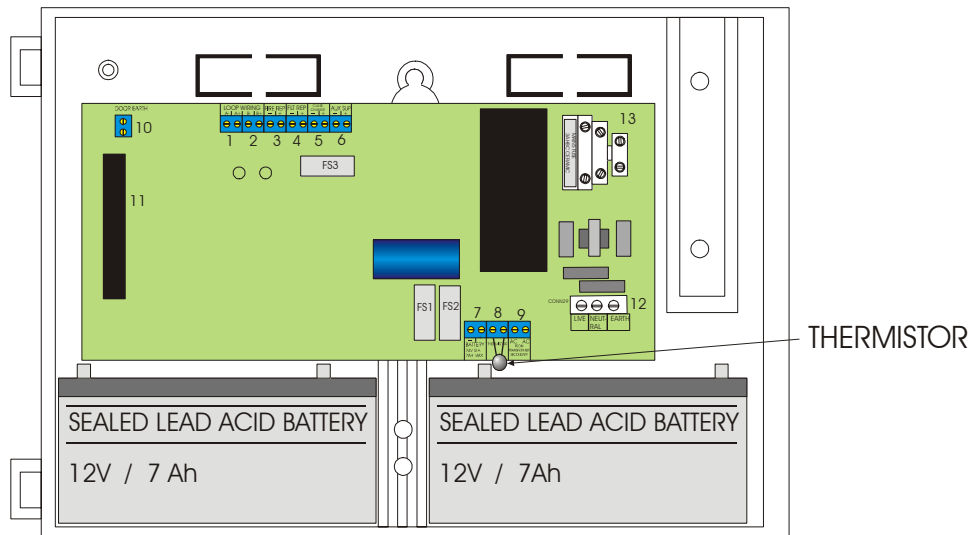

Figure 4a: Thermistor location
**When fitting the batteries, take care not to damage the temperature monitoring thermistors. See figure 4a overleaf.**